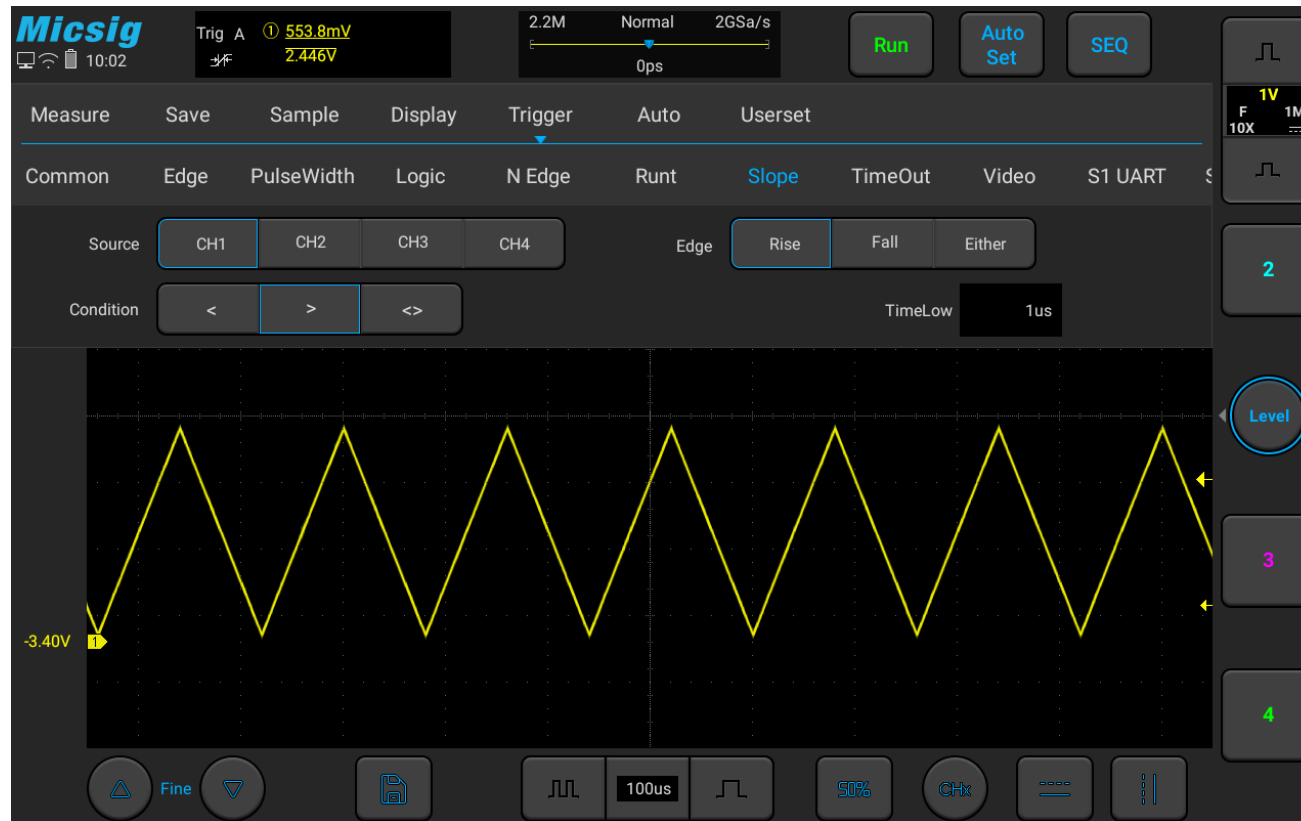

Figure 5-27 Slope Trigger Setting Menu
- 1) Tap “Trigger” on the main menu to open the trigger menu, select the slope trigger in the trigger type, and set the slope trigger as follows, as shown in Figure 5-27: